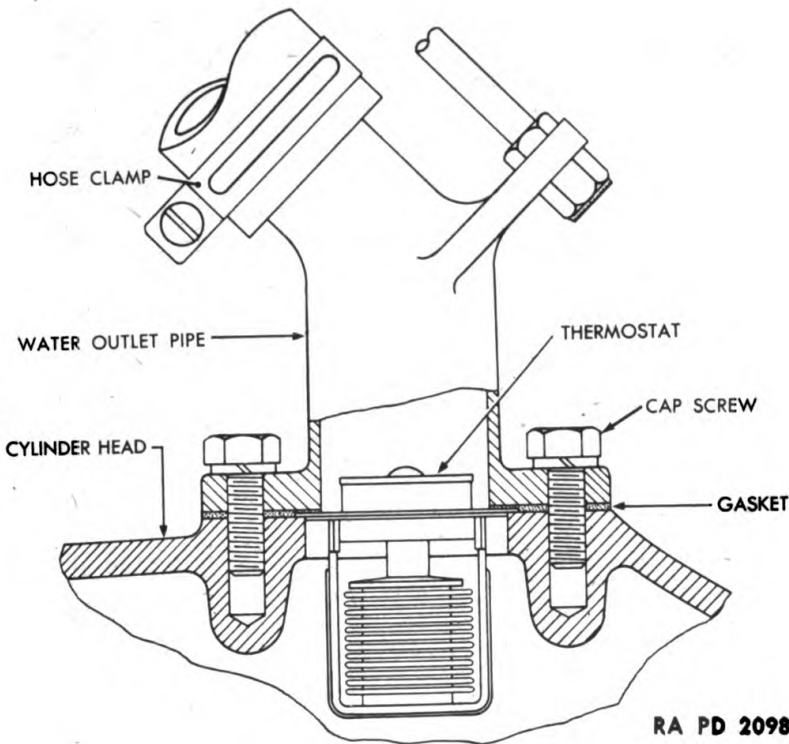

Figure 13 — Thermostat — Sectionalized View
b. **Functioning.** The water pump circulates cooled water from the bottom of the radiator through the channels in the engine water jacket and cylinder head. The heated water is forced out of the engine through the water outlet pipe, mounted on the engine cylinder head, and into the upper radiator tank. The water continues to flow down the radiator tubes where it is cooled and redrawn into the water pump to complete the water circulation cycle. The action of the fan causes air to circulate about the engine and forces air through the radiator, cooling the engine and the water circulating through the radiator. A thermostat, extending into the engine cylinder head, is mounted on top of the engine beneath the water outlet pipe (fig. 13). Its function is to prevent water circulation through the radiator until the engine has reached a normal operating temperature (160 to 180 deg F). A bypass pipe from the water pump to the engine block permits water circulation through the pump while the thermostat shuts off the water circulation through the radiator.
41. THERMOSTAT (fig. 13).
(1) Place thermostat in cylinder head so that bellows enter head (fig. 13).
(2) Using new gasket between water outlet pipe and cylinder head, connect outlet pipe to head.
(3) Attach upper radiator hose to water outlet pipe and replace radiator tie rod.
(4) Refill radiator.